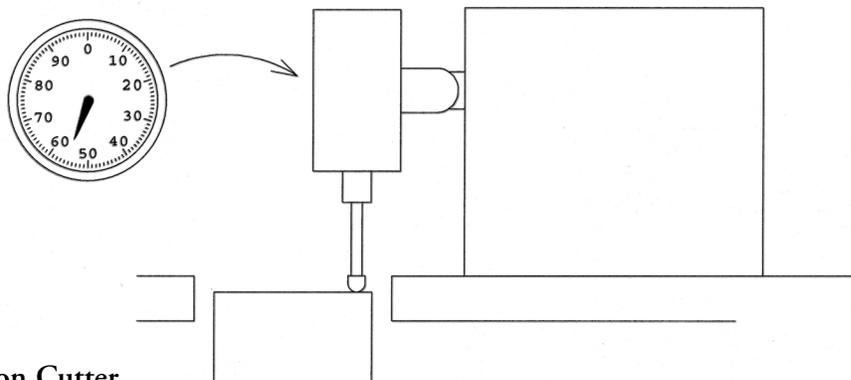

Figure 3
- Move the dial indicator to the side of the diamond cutter nearest the outfeed rail, making sure that the stem of the indicator is on the body of the cutter. *Never touch the diamond tips of the cutter.* The reading on the indicator should read minus .242"–.243" (forty two to forty three graduations past "0") (Metric = 6.14 – 6.17mm, 14 to 17 graduations past "0") See Fig. 3.